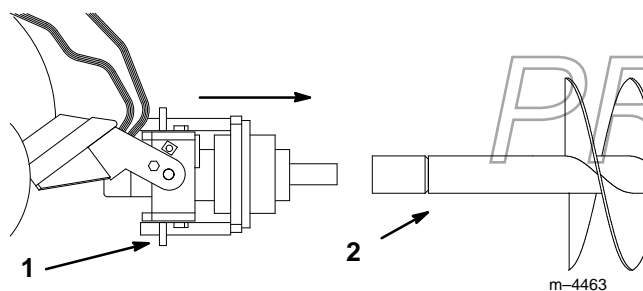

Figure 7
9. Maneuver the drive shaft into the end of the auger shaft or extension (if applicable) (Fig. 7).